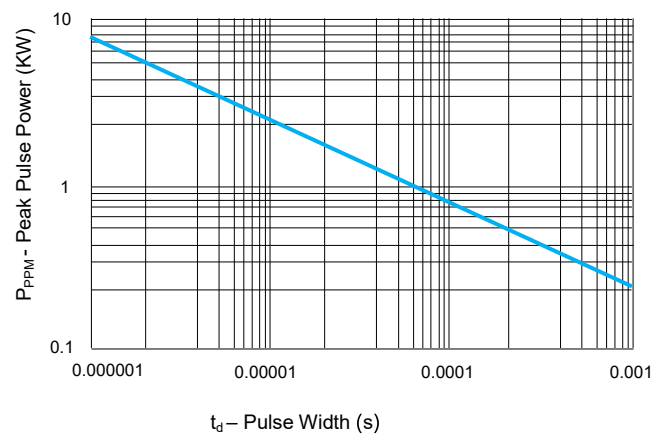

FIGURE 2 Peak Pulse Power Rating Curve
2. Surge current waveform per 10/1000 μS exponential wave and derated per Fig.2.